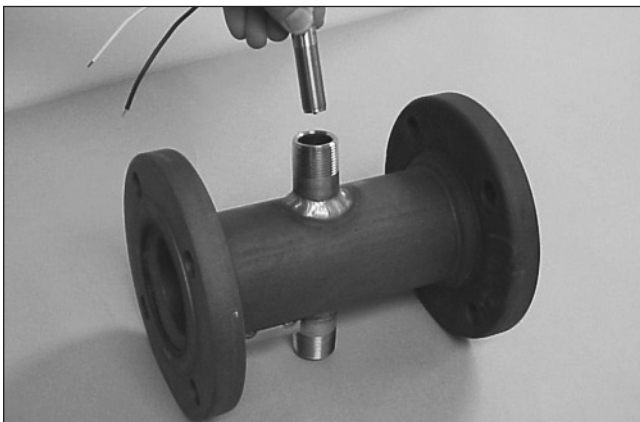

Figure 2
5. Remove pick-up coil from meter by turning counterclockwise, Figure 2.